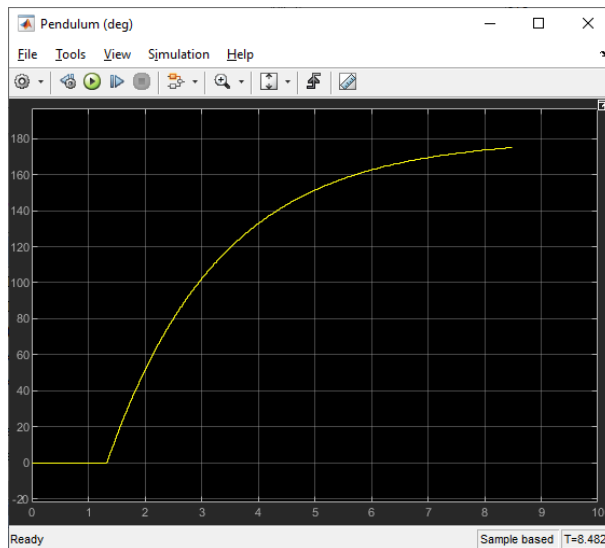

Figure 2.2: Measured pendulum angle
- Rotate the pendulum counter-clockwise by clicking on the *Lift pendulum* button in **QLABS®**. Examine the response in the *Pendulum* scope as the pendulum rotates upwards. An example response is shown in Figure 2.2. Does the measured angle follow the modeling conventions given in Section 1? Stop the Simulink model once you obtain a representative response.